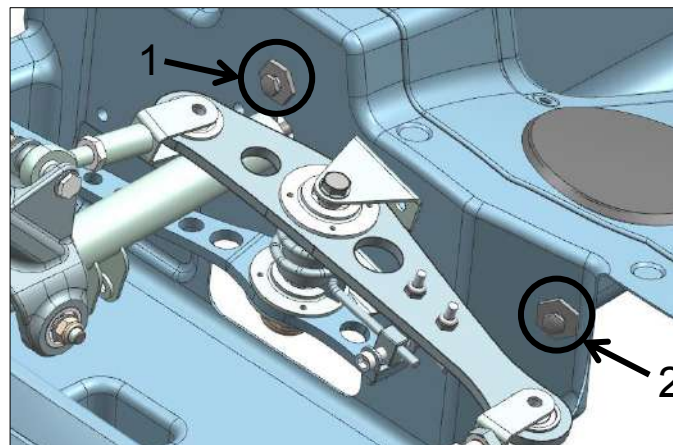

Figure 27-16: Elevator Stop Location
3. The elevator stops are shown in Figure 27-16. If the upper limit tolerance is not met according to Table 27-3 when the elevator is in the full up position, stop number 1 (Figure 27-16) should be adjusted to a more aft position and vice versa for the tolerance not made to the lower limit.
4. If the upper limit tolerance is not met according to Table 27-3 when the elevator is in the full down position, stop number 2 (Figure 27-16) should be adjusted to a more aft position and vice versa for the tolerance not made to the lower limit.